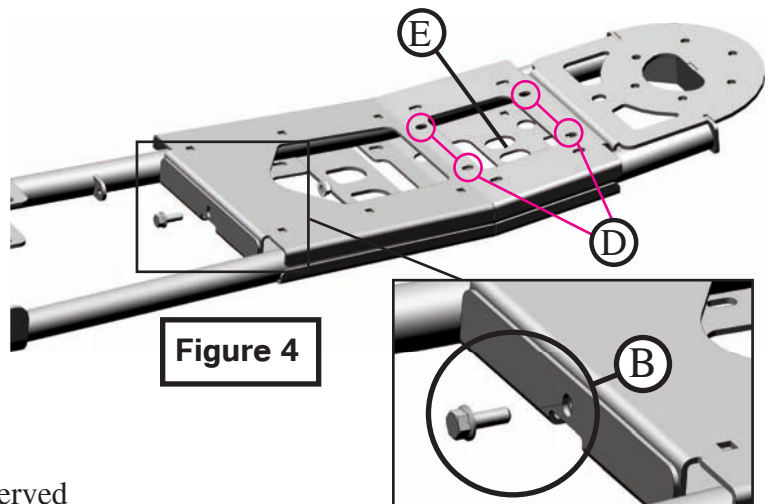

Figure 4
8. You can re-attach your hook bracket {C} to the stiffener in the locations {D} or attach your winch hook to location {E}. Shown in Figure 4.